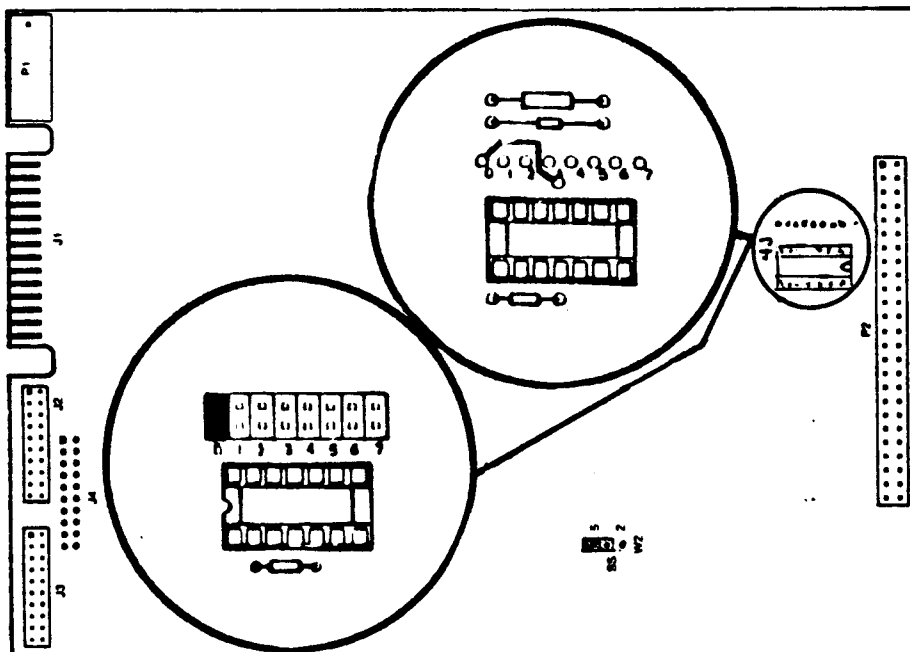

Figure 1
The 670-8437-00 rolled to -01 when the wire jumper at board location 4J, to select a device address, changed to a double row of pins and a moveable jumper, see figure 1. Xebec rolled the board assembly number from 104526 to
Configuring the Winchester controller is a matter of selecting the proper device address. The default device address is zero (0) as shown in the two exploded views on the Winchester controller board, figure 1. However, when connecting multiple devices, each device must be at a different device address. This requires the user to choose the device address. Device address 7 is always reserved for the host controller, such as the MSIB I/F (Option 45).
Sector size should be set for 512 bytes, strap W2 (on the 104526) or W2(on th- 104527) should be set at 5, as shown in Figure 1.